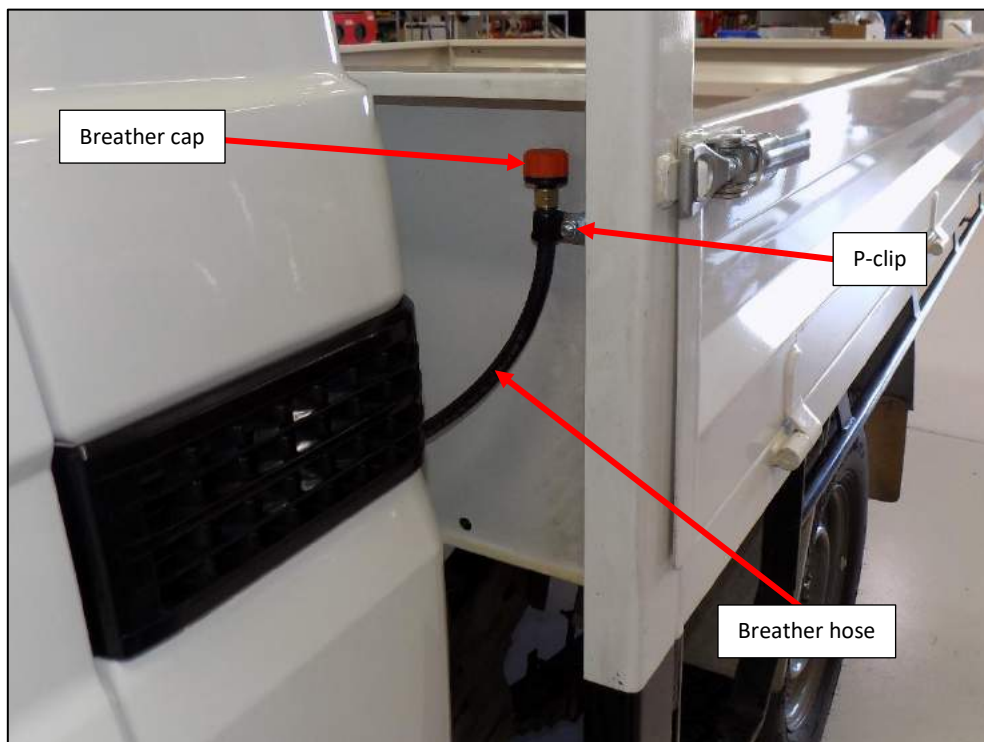

Figure 53
44. Run a hose from the T-junction up to the front of the tray (or other suitable location) and attach the barb adapter and breather cap (Figure 53). Secure the hose with P-clips ensuring it cannot contact any moving parts or the exhaust and there is no potential for kinks.